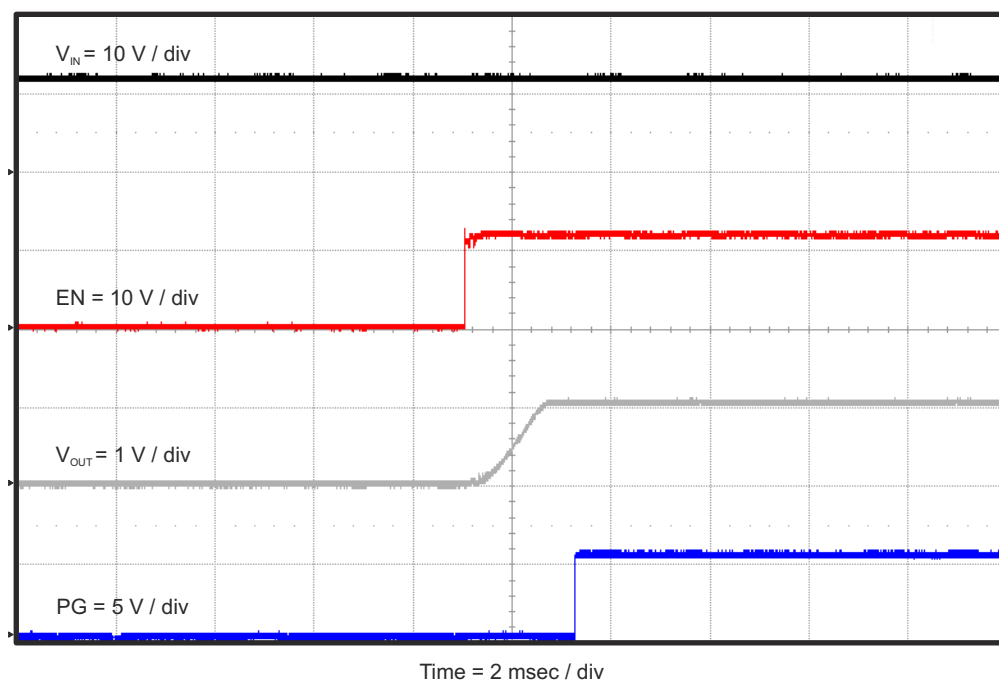

Figure 4-12. TPS54626EVM-608 Start Up Relative to EN
The TPS54626EVM-608 start up waveform relative to enable (EN) is shown in Figure 4-12. Load = 1 Ω resistive.